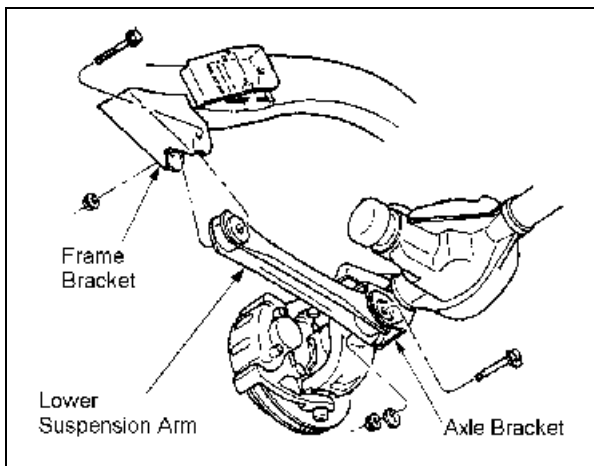

Figure 4
4. ≤ Remove the nut, cam, and cam bolt from the axle bracket. Remove the nut and bolt from the frame bracket. Remove the lower suspension arm. See Figure 4